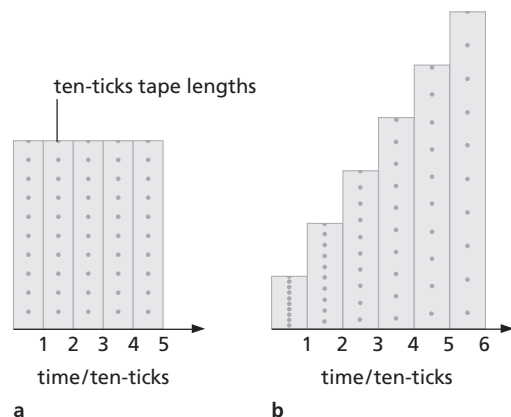

Figure 1 Tape charts: a constant speed; b increasing speed
- 3 Cut the tape into ten-tick lengths and make a tape chart by arranging successive strips of tape side by side, so that the bottom of each strip is on a horizontal line as shown in Figure 1.